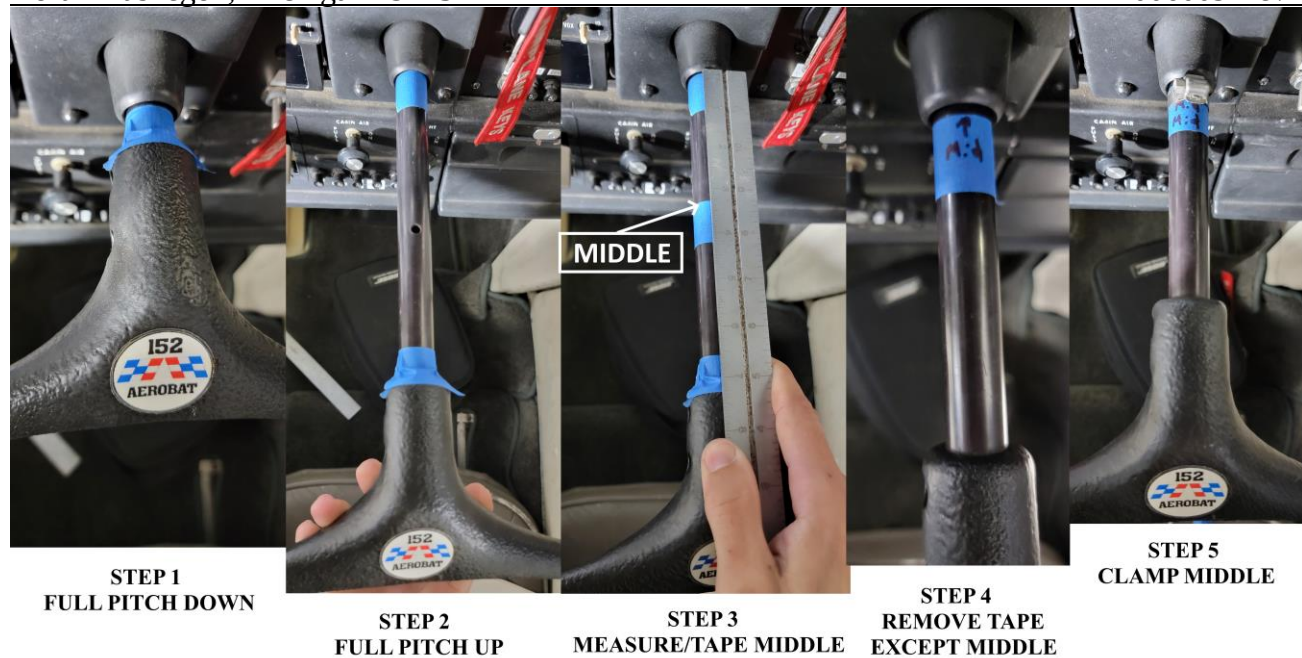

FIGURE 4-13 CENTER OF PITCH TRAVEL
- 4.2.16 Before the next step is accomplished you must first determine where the center of pitch cable travel is (Not flight neutral). One method is shown in Figure 4-13.